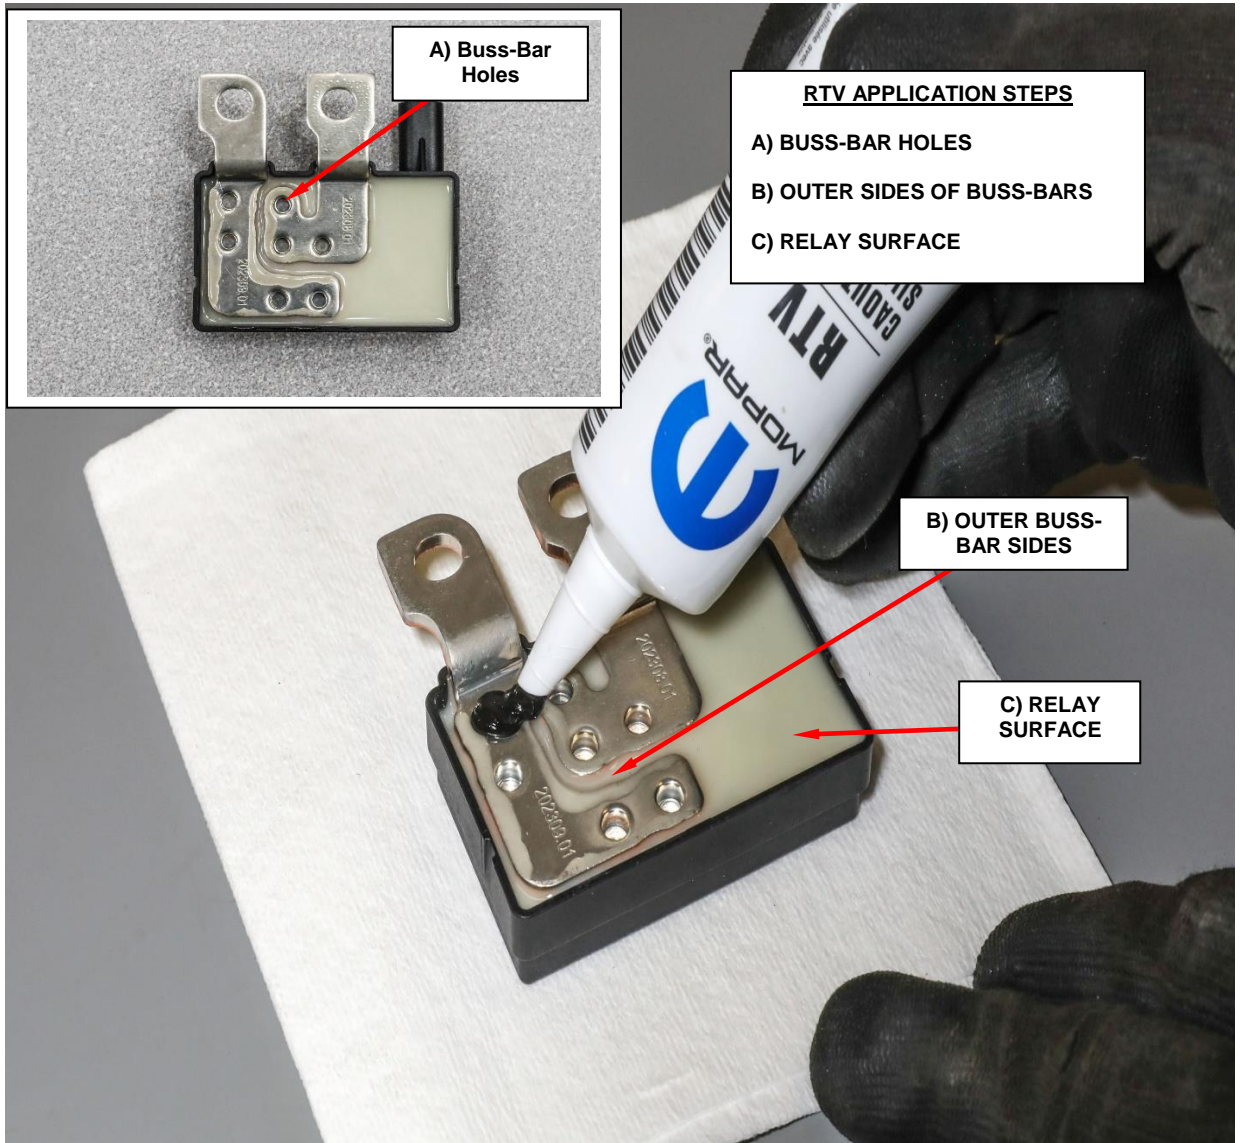

Figure 11 – RTV Application Procedure
9. Initiate the application of the RTV by: **A)** applying the RTV on the buss bar holes then **B)** apply to the outer sides of the buss-bars and **C)** finally on the remaining surface of the relay (approximately 2MM thickness) to cover the relay (Figure 11).